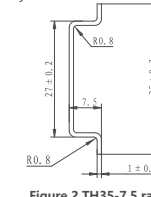

Figure 2 TH35-7.5 rail
7.3.1 TH 35-7.5 guide rail is installed, and the guide rail specification is shown in Figure 2.